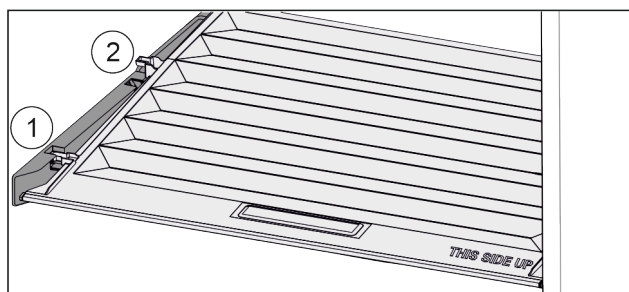

Fig. 131
- Pull the lid up at the front to the opening in the retaining parts Fig. 131 (1).
- Lift from the back and pull it up and out Fig. 131 (2).